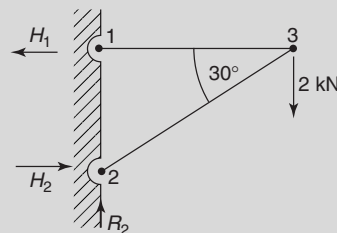

Figure A1.1
6. A force of 25 N acts horizontally to the right and a force of 15 N is inclined at an angle of 30° to the 25 N force. Determine the magnitude and direction of the resultant of the two forces using (a) the triangle of forces method, (b) the parallelogram of forces method, and (c) by calculation (12)
7. Determine graphically the magnitude and direction of the resultant of the following three coplanar forces, which may be considered as acting at a point. Force P , 15 N acting horizontally to the right, force Q , 8 N inclined at 45° to force P , and force R , 20 N inclined at 120° to force P (7)
8. Determine by resolution of forces the resultant of the following three coplanar forces acting at a point: 120 N acting at 40° to the horizontal; 250 N acting at 145° to the horizontal; 300 N acting at 260° to the horizontal. (8)
9. Determine the unknown internal forces in the pin-jointed truss of Figure A1.1. (7)